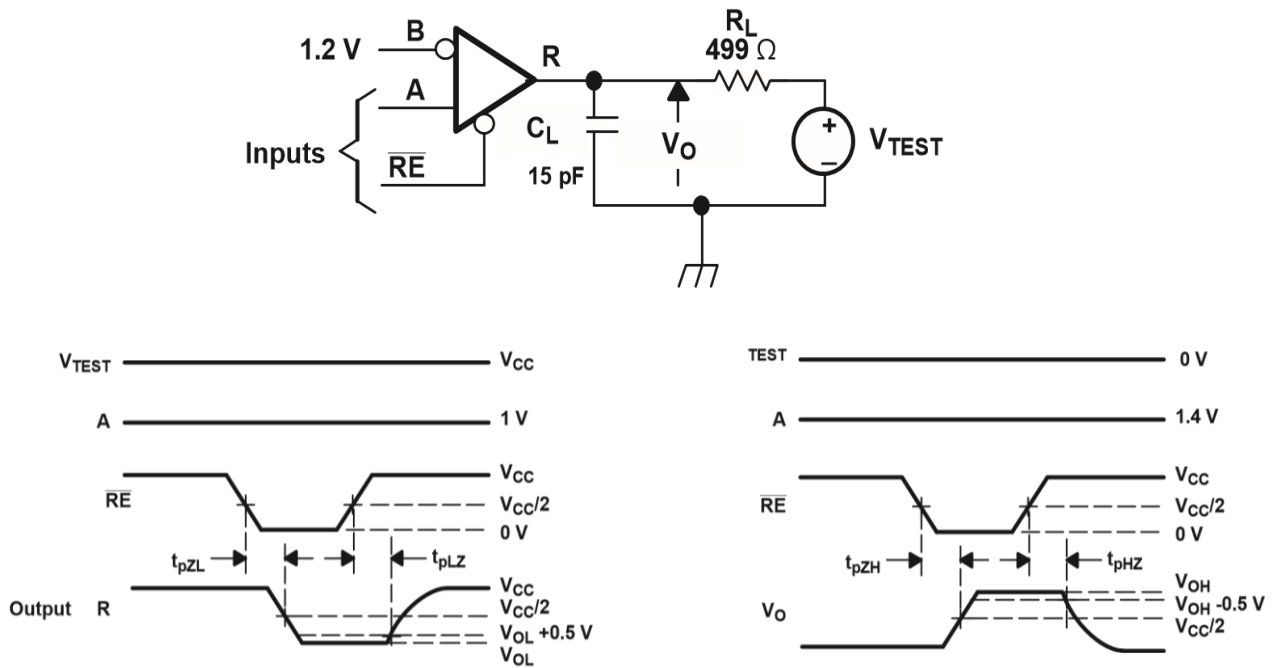

Figure 10. Receiver Enable/Disable Time Test Circuit and Waveforms
| $t_{pHZ}$                          | Disable time, high-level-to-high-impedance output (1) | See Figure 10                        |     | 4.5 |     | ns   |